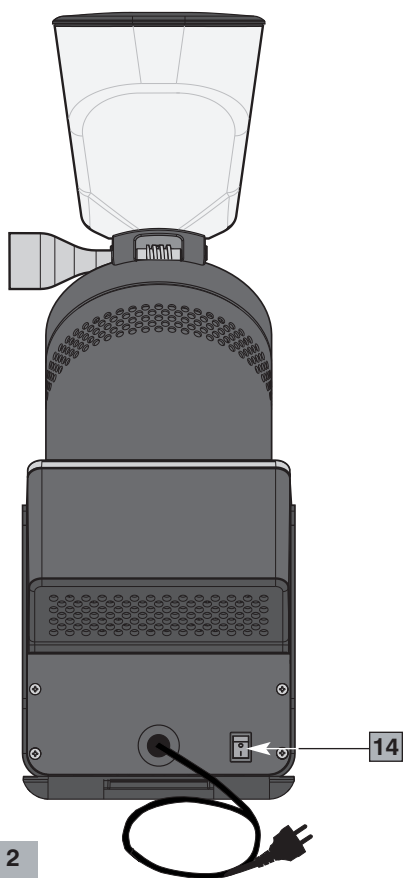
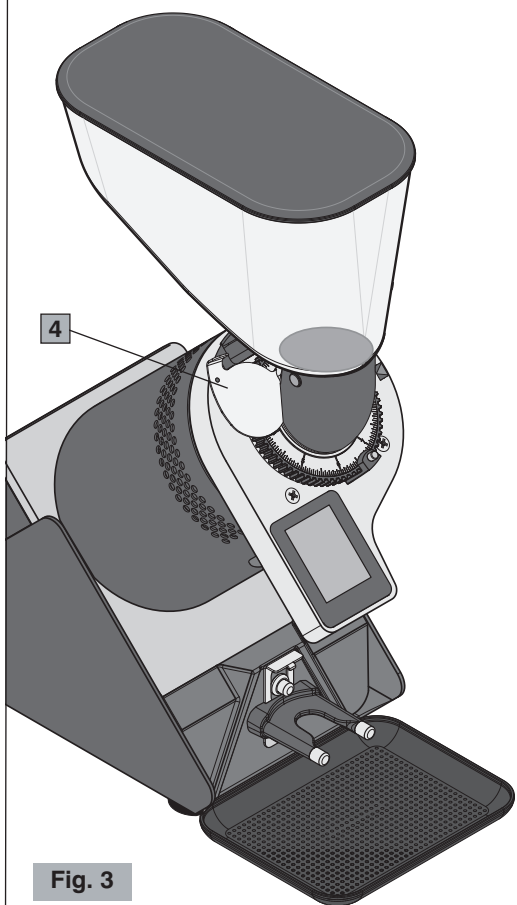
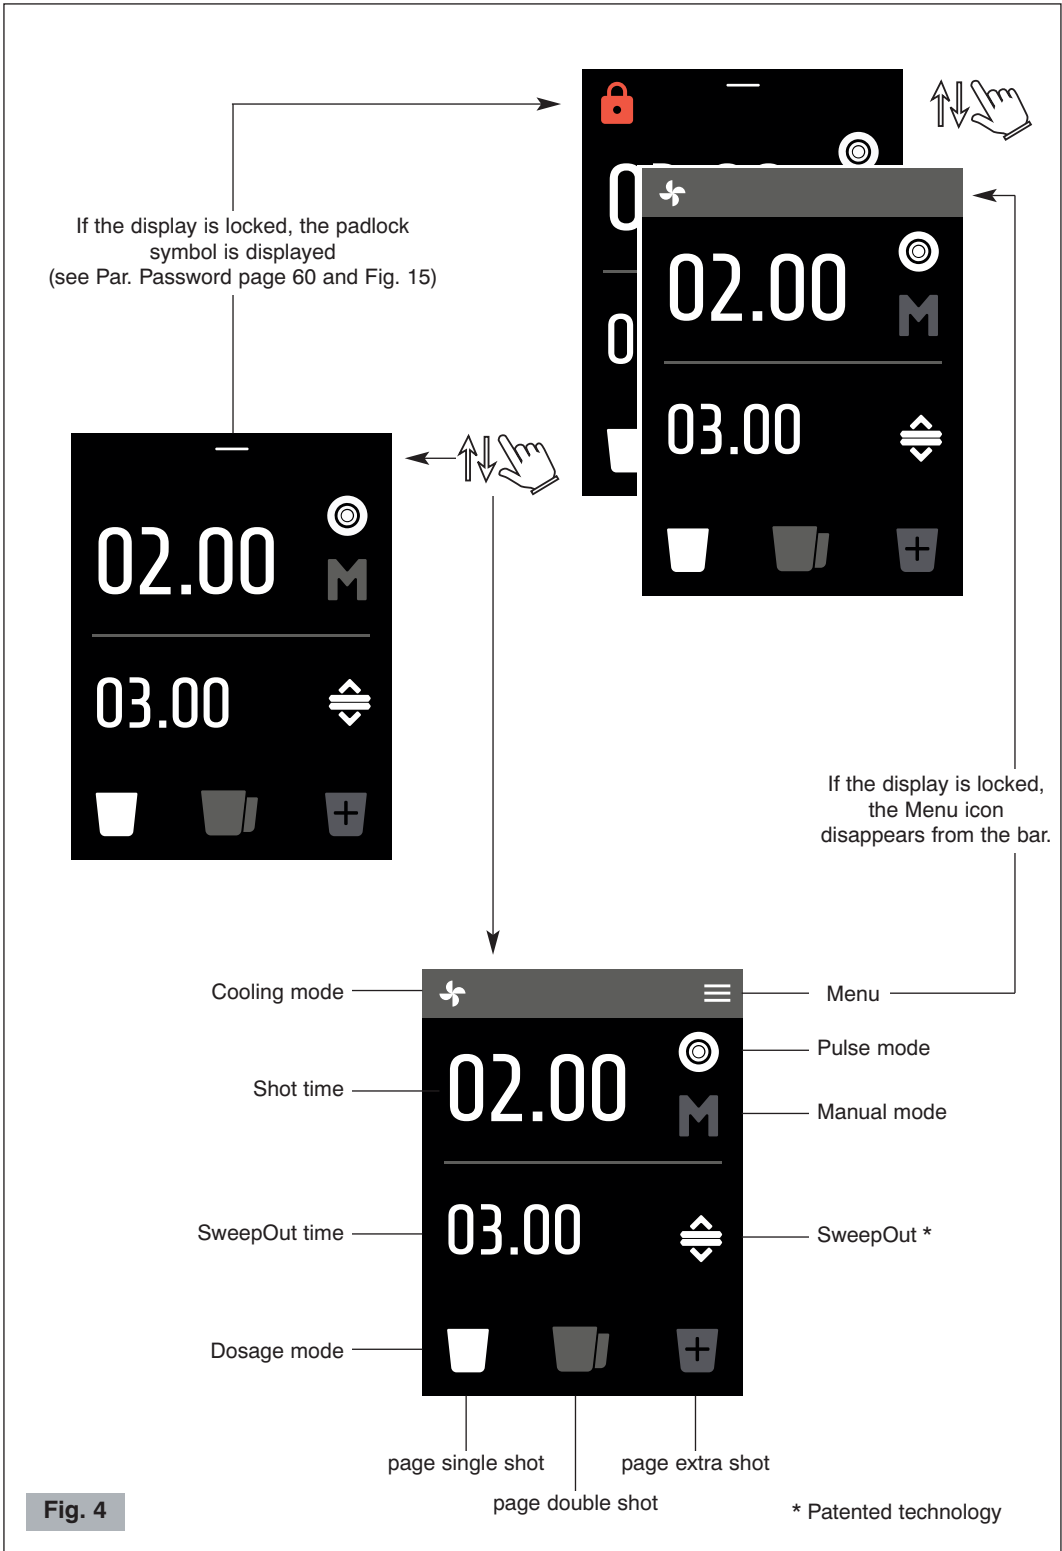

Fig. 2
Fig. 3
Fig. 4
### Main parts (Fig. 1, Fig. 2, Fig. 3, Fig. 4)
| 4 | Bean hopper shutter (Fig. 3)      | 13 | Tray                         |
| 5 | Grinding adjustment disc          | 14 | ON-OFF (I-O) switch (Fig. 2) |
| 7 | Control panel (Fig. 1 and Fig. 4) | 16 | Granulometry indicator disc  |
Before connecting the plug to the power socket, make sure that the ON-OFF switch (14 Fig. 2) is in position "O" (OFF).
6. Make sure that the bean hopper is correctly positioned and that its shutter (4 Fig. 3) is completely open (to the last click).
- 2 Turn the ON-OFF switch (14 Fig. 2) to position "I". The panel (7 Fig. 1) lights up (see Fig. 4).